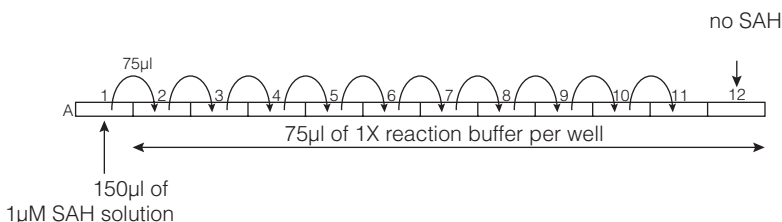

Figure 4. Dilution scheme for preparing SAH standards.
3. Perform a serial twofold dilution by transferring 75 μ l from well A1 to well A2. Pipet to mix. Transfer 75 μ l from well A2 to well A3, and pipet to mix. Repeat the transfer for wells A3 through A11, mixing well after each transfer. Discard 75 μ l from well A11. Do not add SAH solution to well A12. See Figure 4.